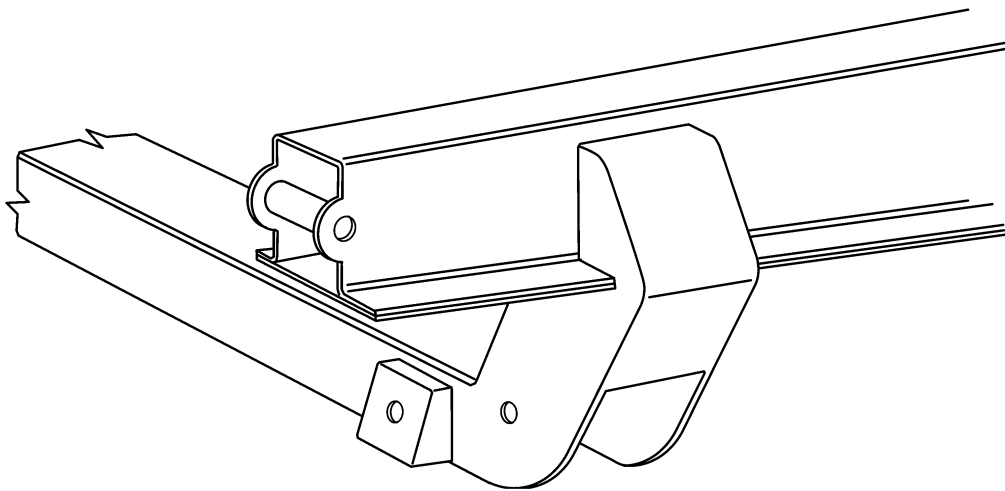

Figure 4
6. Next start fitting the crossmember. Slip the crossmember up onto the frame, centering it on the scribed spindle centerline. See figure 4. If it does not quite fit onto the frame, slightly grind the upright ends of the crossmember until you can get it into place. Make sure that the crossmember is fully seated on the underside of the frame. Tack weld in place, double check the location and weld in place, welding all around both ends, top, sides, and the underside of the bottom of the frame.